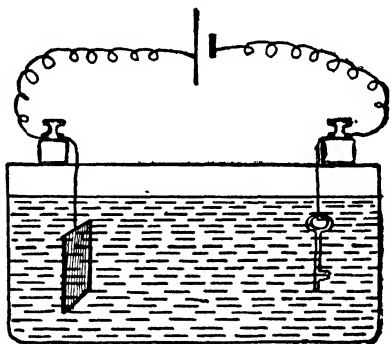

FIG. 86.—Copper plating bath.
9. **Copper Plating.**—In an oblong battery jar about 10 inches long and 5 inches square on the end as shown in Fig. 86, place a saturated solution of copper sulphate. To prepare the solution crush the crystals and stir them with water allowing the mixture to stand overnight. Across